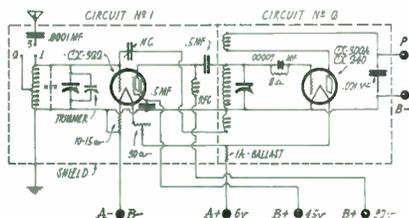

Fig. 1. Circuit Diagram of Browning-Drake
The new double grid tube can be used in the r.f. stage of the Browning-Drake two-tube kit described in January RADIO by a few simple changes. These include (1) shorting out the primary of the r.f. transformer and substituting a 1/2 mfd. condenser and r.f. choke, (2) shielding the r.f. stage, (3) inserting a 1/2 mfd. condenser between the tube's plate and a connection to ground, and (4) putting a 10 or 15 ohm resistance in the filament circuit to reduce from 6 to 3.3 volts. A neutralizing condenser is used to balance the very small capacity between the tube's plate and control grid, thus giving greatest efficiency for the regeneration on the r.f. transformer. These changes are shown in Fig. 1.
the first tuned circuit, as shown by dotted lines in Fig. 1. In many cases, however, especially if the 0001 mfd. series antenna condenser adds enough capacity, the trimmer condenser will take care of any difference between the two singly-controlled tuning condenser settings throughout the waveband. A few experiments will determine whether it is needed in a given installation. Suitable shields and instructions for their use may be secured from the Browning-Drake Corporation. The 1/2 mfd. condenser between the shielded grid and ground is essential when using this tube. The 10-15 ohm resistance in the filament circuit not only cuts the 5 volts used with the 500-A. or 240 detector to 3.3 volts for the screened grid tube, but also supplies biasing current. If a 3 volt supply and -99 tube is